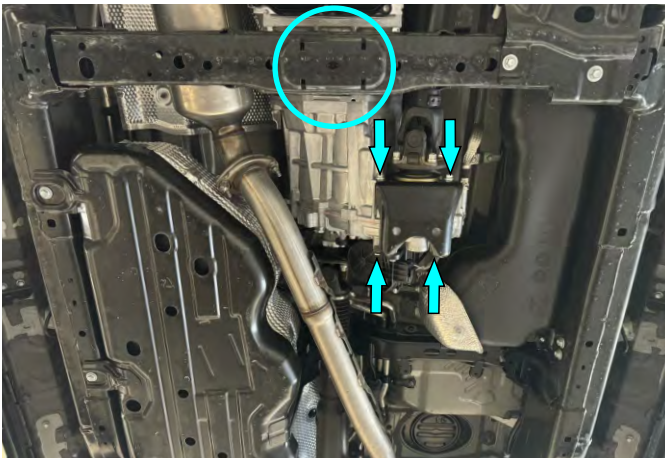

Fig. 1
1. Remove plastic pad and factory cover as shown in fig. 1.